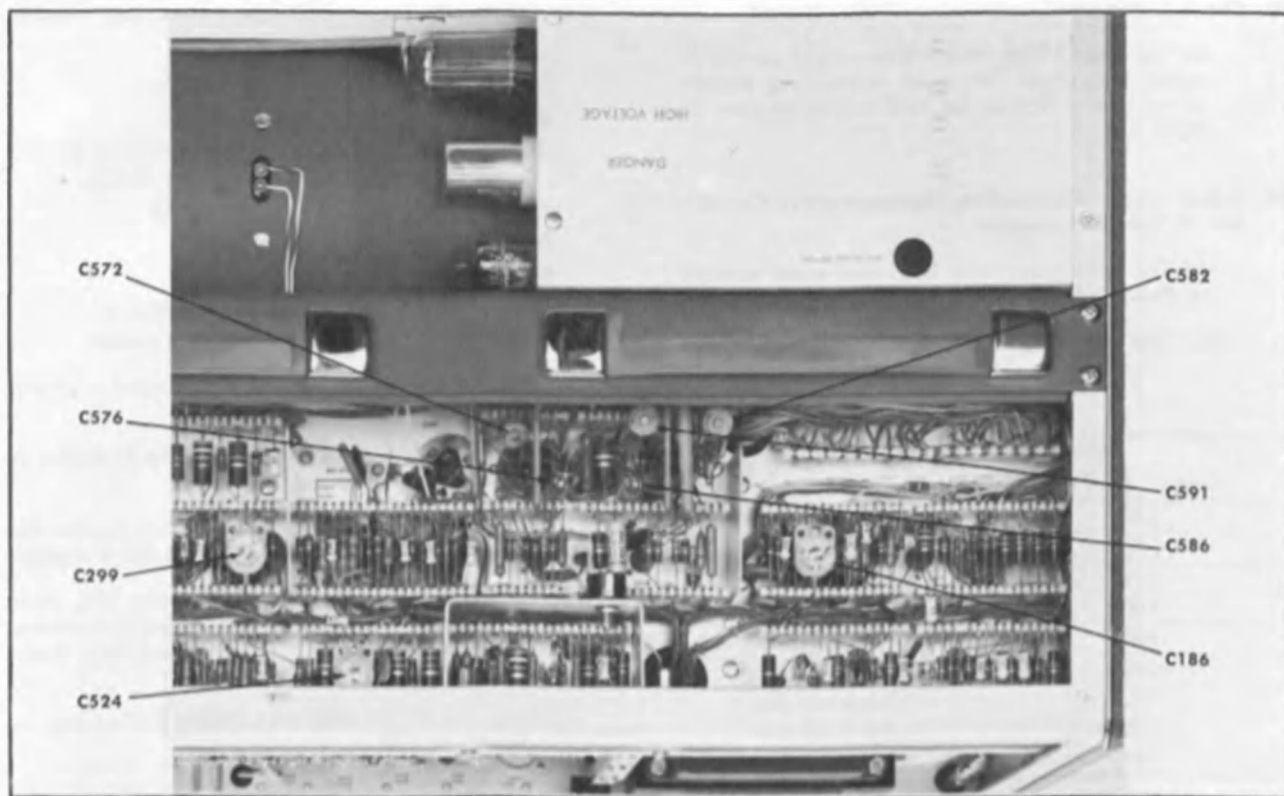

Fig. 5-13. Calibration adjustment locations.
- d. Adjust C186 (see Fig. 5-13) so the starting portion of the B trace is the same brightness as the starting portion of the A trace.
- g. Check that C576 and C586 (see Fig. 5-13) slug-adjusting screws are about six turns above the metal wiper contacts of the capacitors.
- i. Adjust C572 and C582 (see Fig. 5-13) for maximum center-sweep expansion. (Use a low-capacitance alignment tool when making the adjustments.) These two capacitors should be adjusted to nearly the same physical setting.
Adjust C591 (see Fig. 5-13) for best center-sweep linearity of 1 cycle/2 cm.